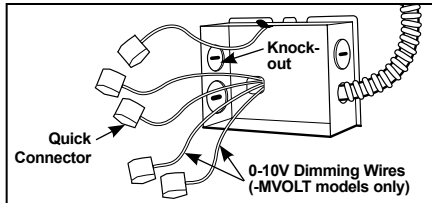

Figure 6
Step 2. Remove wiring box cover. Remove the appropriate knock-out(s) to accommodate the type of electrical service to be used/allowed by your local electrical code (Fig. 6):
Step 3. Strip supply wire 3/8" and insert each supply wire into appropriate connector. Connect black fixture wire to hot, white fixture wire to neutral and green fixture wire to ground. (Fig. 6). Connect violet (+) and gray (-) dimmer wires, if utilizing 0-10V dimmer.